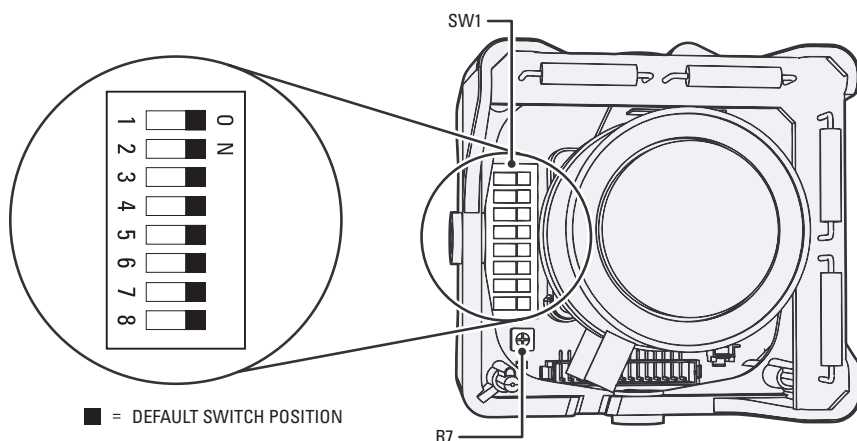

Figure 11. Adjusting the IS150-DW/CW Series Camclosure
Refer to Figure 11 to adjust the IS150-DW or IS150-CW model.
2. Select the camera to synchronize. Use the phase adjustment control (R7) to synchronize the camera to the reference camera (refer to Figure 11 on page 20). Turn R7 clockwise to increase vertical phase; turn R7 counterclockwise to decrease vertical phase.